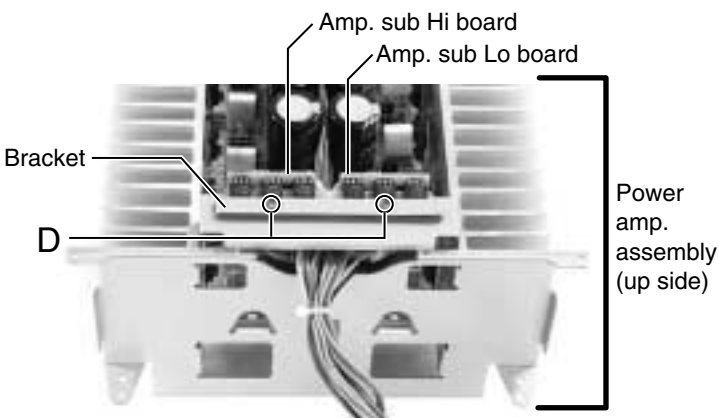

Fig.5
**■ Removing the amp. sub Lo & amp. sub Hi board (See Fig.5)**